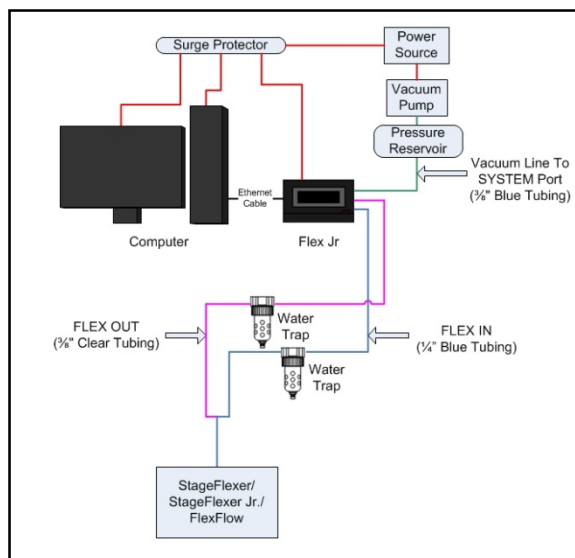
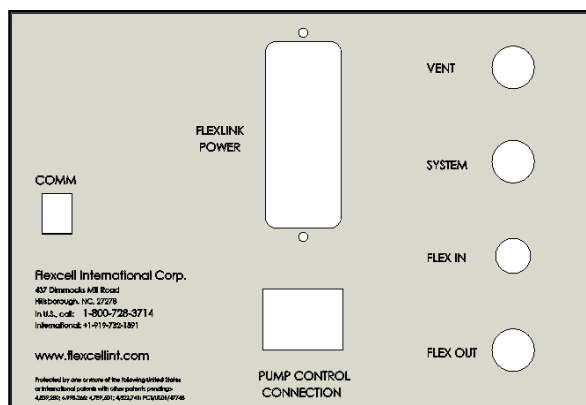
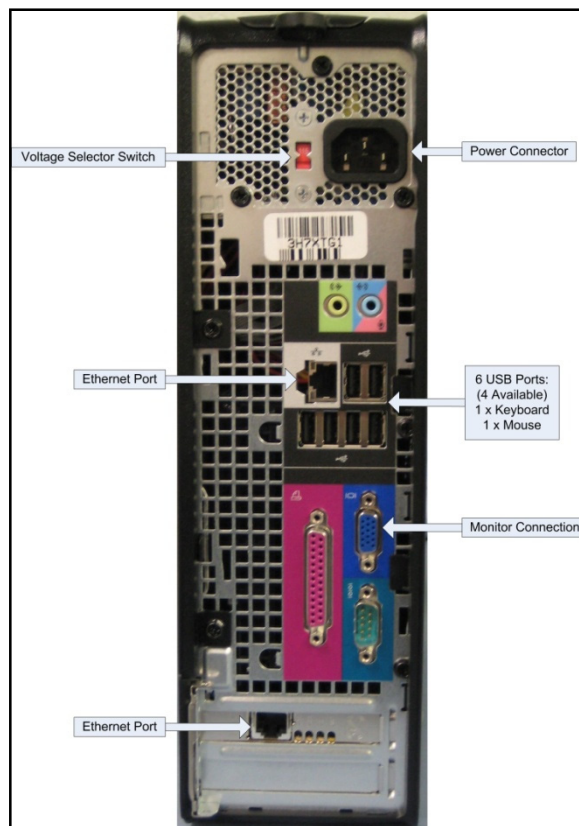

Figure 1. Flexcell® Flex Jr.™ Tension System
Figure 2. Flex Jr.™ Tension FlexLink® rear view
Figure 3. Dell OptiPlex rear view
3. Connect the FlexLink® to the Ethernet port on the back of the computer using the Ethernet cable supplied (see Figs. 2 and 3, p.2).
7. Place the Water Traps (see Fig. 1, p.2) **inline** with the **FLEX IN** and **FLEX OUT** tubing:
Choose a location for the Flex Jr.™ Tension system (Fig. 1) that is adjacent and as close as possible to the microscope and vacuum source. A shorter distance in vacuum lines decreases the air flow resistance for elongation and release of the flexible bottomed culture plates, allowing for a greater range of flexing at higher frequencies. The length of the vacuum line should be a minimum of 4' (1.2 m). All tubing and the Ethernet communications cable connect to the rear of the **Flex Jr.™ Tension FlexLink®** (Fig. 2). All cables (mouse, monitor, keyboard, and Ethernet communications cables) will connect to the rear of the **computer** (Fig. 3). The length of the clear and blue tubing from the FlexLink® to the microscope device should be 10' (3 m)
1. Connect the $\frac{3}{8}$ " (9.5 mm) O.D. blue tubing from the vacuum source to the **SYSTEM** port on the back of the FlexLink® (Fig. 1 & 2).
2. Attach the free end of the clear $\frac{3}{8}$ " (9.5 mm) tubing to the **FLEX OUT** port on the back of the FlexLink® (Fig. 2).
3. Attach the free end of the blue $\frac{1}{4}$ " (6.4 mm) tubing to the **FLEX IN** port on the back of the FlexLink® (Fig. 2). The **VENT** port should be left open (Fig. 2).
Connect the power cables (115 VAC or 230 VAC) to the rear power inlet (**FLEXLINK POWER**) of the FlexLink® (Fig. 2). If the available power supply is 115 VAC or 230 VAC, be sure the voltage selection switch on the computer (Fig. 3) is set to 115 V or 230 V, respectively. When the instruments are completely set up, the power cords should be connected to a **surge protected** power strip and then to a 115 VAC or 230 VAC, 60 Hz power outlet.
To use the auto control pump feature, plug the vacuum pump power cable into the **PUMP CONTROL CONNECTION** outlet on the rear of the Flex Jr.™ Tension FlexLink® (Fig. 2 and 5).